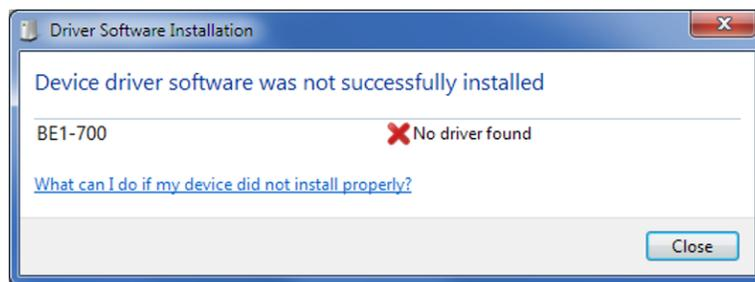

Figure 52-1. Driver Software Installation
- Step 1. If the message in Figure 52-1 is shown, close all programs and restart the computer.